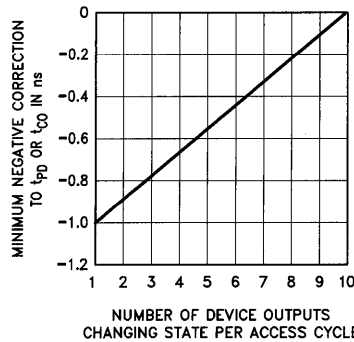

Figure 3
3. This specification is guaranteed for all device outputs changing state in a given access cycle. See *Figure 3* for the minimum guaranteed negative correction which may be subtracted from t_{PD} for cases in which fewer outputs are changing state per access cycle.
14. This specification is guaranteed for all device outputs changing state in a given access cycle. See *Figure 3* for the minimum guaranteed negative correction which may be subtracted from t_{CO} for cases in which fewer outputs are changing state per access cycle.